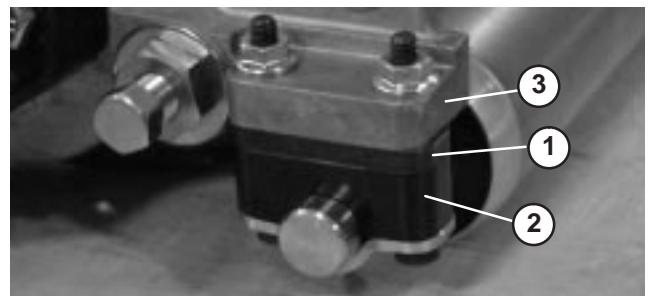

Figure 11
- Position the spacer below the sideplate mounting flange when height of cut settings range from 1/8" to 1" (Fig. 11).